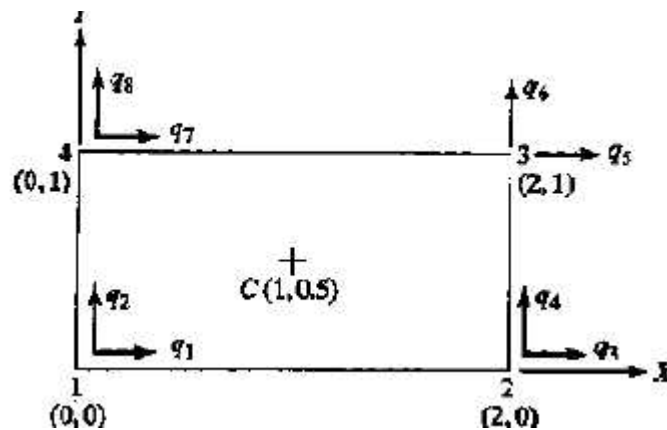

Fig. 5
6. Consider a rectangular element as shown in the Fig. 5. Assume plane stress condition, $E = 200 \times 10^3$ MPa, $\mu = 0.3$ and $q = [0, 0, 0.2, 0, 0.15, 0.10, 0, 0.05]^T$. Evaluate J (Jacobian matrix), B (Strain displacement matrix) and (Stress) at $x = 0$ and $y = 0$.